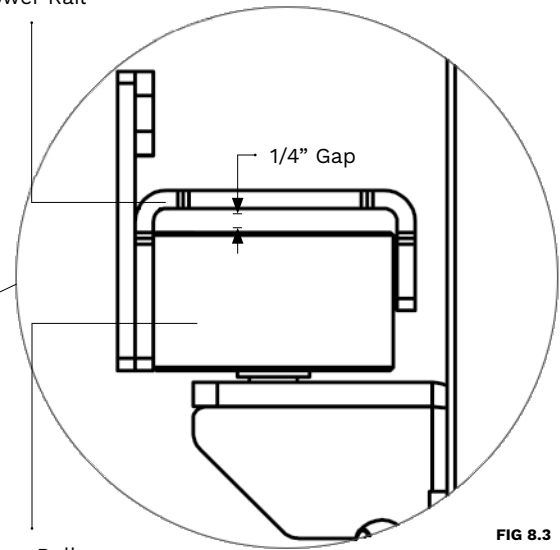

FIG 8.3
2. Ensure the Lower Rollers have a **1/4" gap** between the top of the roller and the underside of the Lower Rail. **See Fig 8.3**